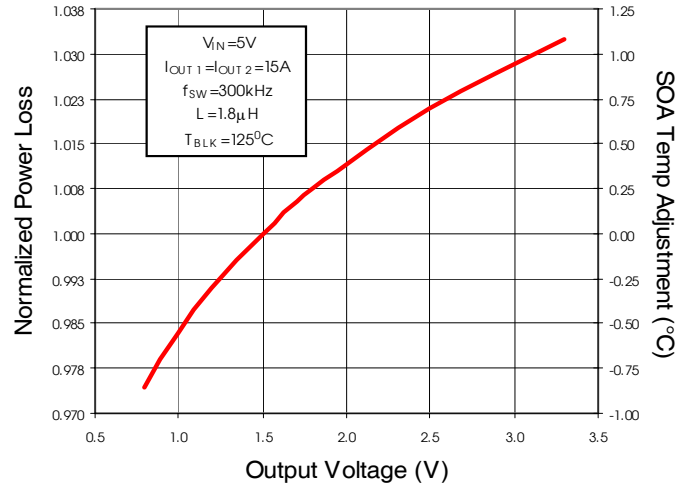

Fig. 5: Normalized Power Loss vs. V_{OUT}
(Fig. 5) Normalized power loss for output voltage \approx 1.0
- (Fig. 5) Normalized power loss for output voltage ≈ 0.98
- (Fig. 5) Normalized SOA Temperature for output voltage $\approx 0^{\circ}C$
- (Fig. 5) Normalized SOA Temperature for output voltage $\approx -0.55^{\circ}C$